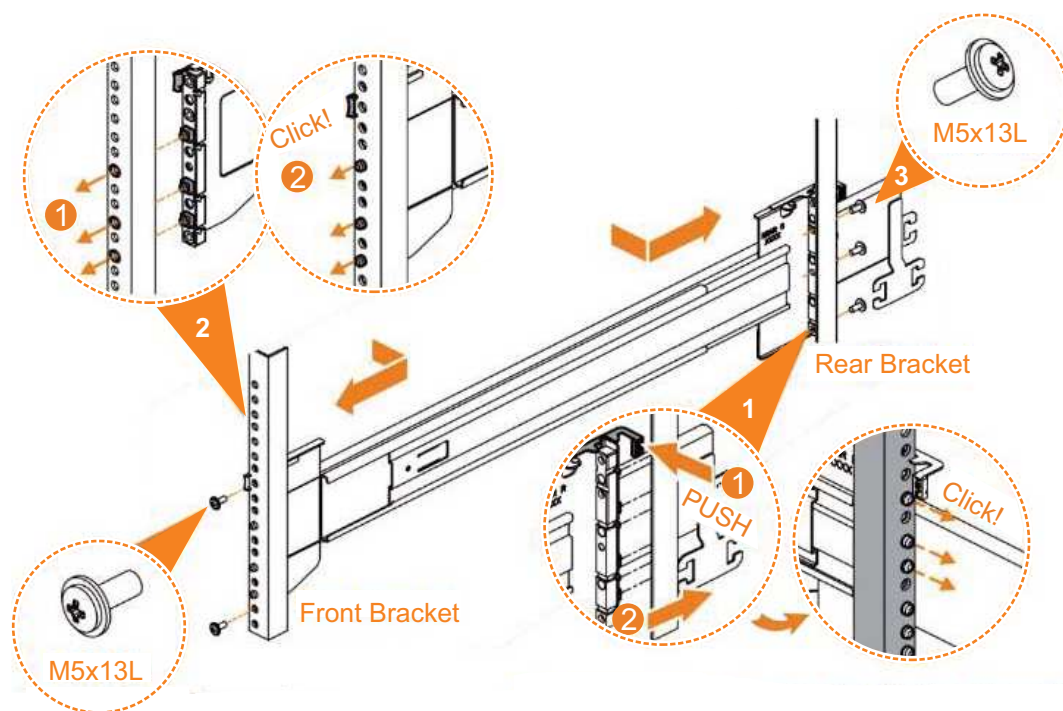

Figure 55. Installing the rail assembly to the rack frame
6. Use the M5 screws to install the outer rail member and bracket assembly to the rack, as shown in Figure 55.